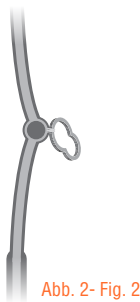

Abb. 2- Fig. 2
- Sew the rings of the cord stoppers at the bottom of the Roman blind (see fig. 2).